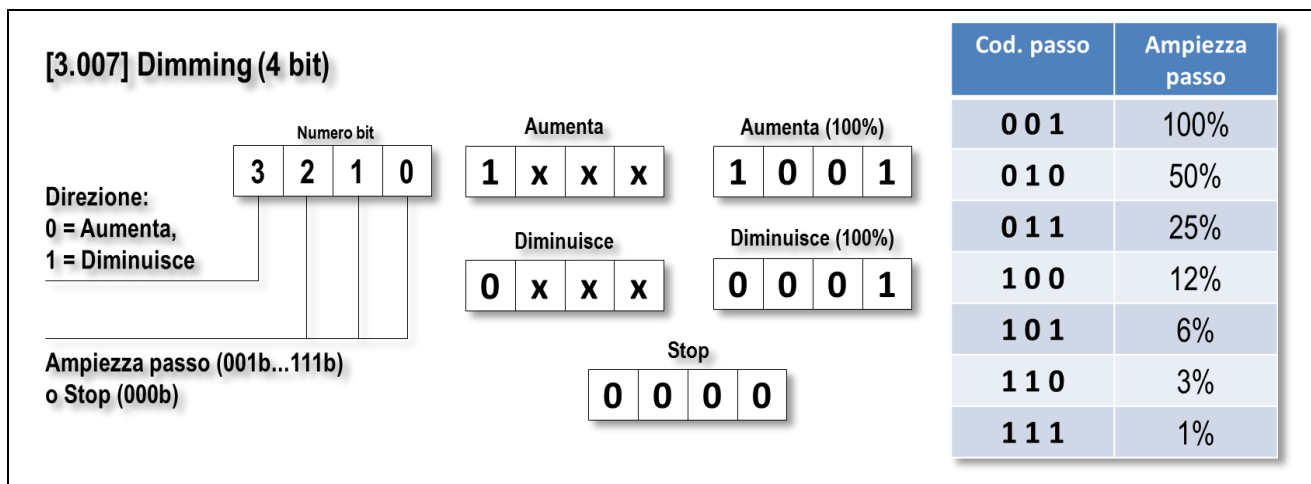

Figure 3 - Dimming OC type
- When all the LEDs flash red (2), the device is in programming mode.
- download the physical address and the configuration to the device using the ETS® program. When you release the buttons, all the LEDs flash red (step 2 in Figure 3); the device is in programming mode;
The dimmer control type is essentially based on a 4-bit communication object, whose data has the format shown in Figure 3: